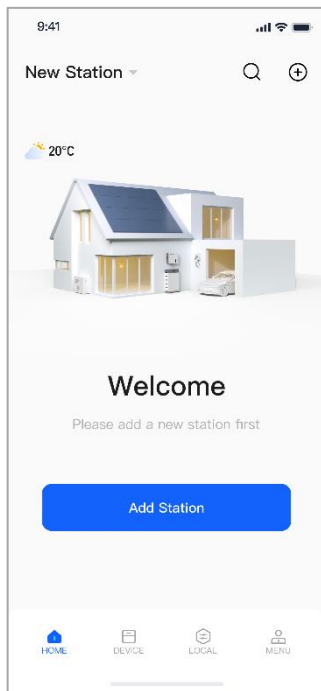

Figure 13
- Tap "**Add station**" on the page, as shown in Figure 13.